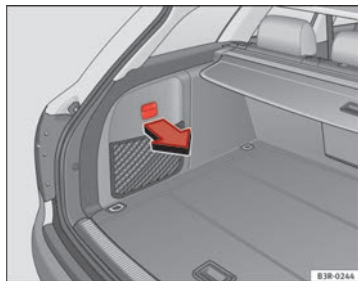

Fig. 125 Luggage compartment: Side trim with closed storage compartment
- To open the storage compartment, pull the handle forwards ⇒ Fig. 125.